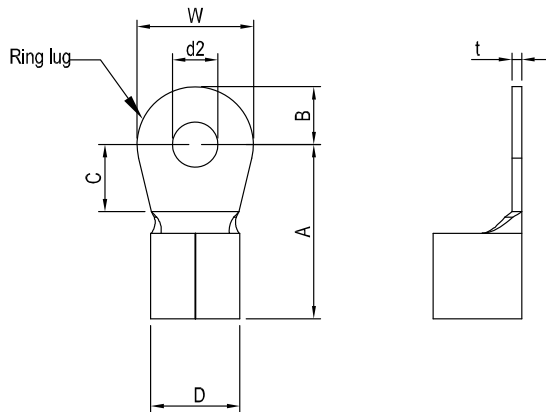

Figure 1.
- 📖 Follow Figure 1 to choose wiring size of terminals